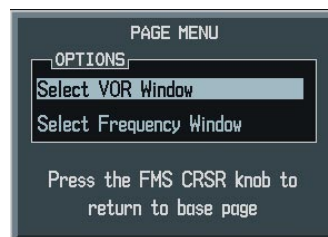

Figure 5-53 Nearest VOR Page Menu
- 1) With the Nearest VOR Page displayed, press the **MENU** Key (Figure 5-53).